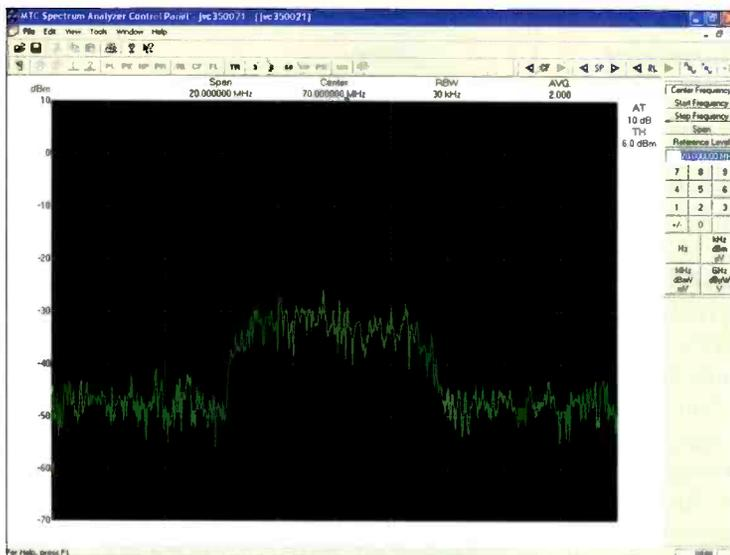
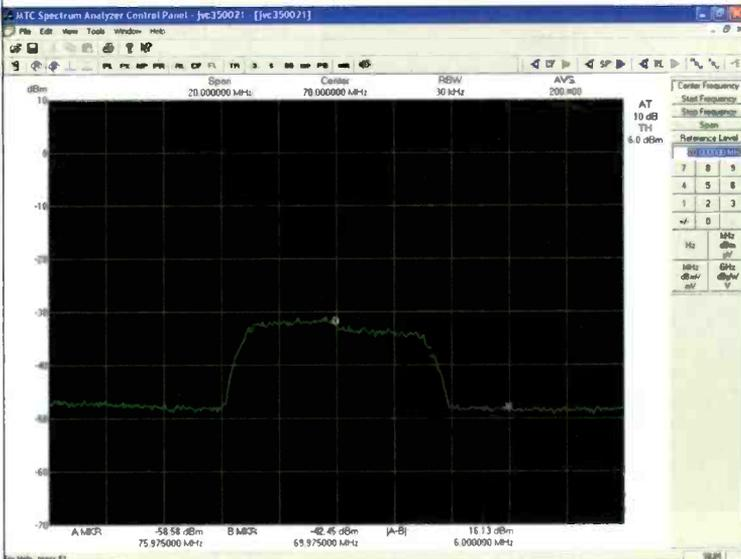

Figure 1. Carrier-to-noise = 16dB
Figure 2. Averaged, with markers
The LA-5124 AutoNorm demultiplexer and Bitstream Splicer are the DTV station side of the StreamStacker system and have a serial connection that interfaces directly with the serial port of the LM100. As the meter is measuring the compressed Dolby Digital stream, the dialogue levels are reported to the StreamStacker, which processes them and inserts them into the outgoing bit stream. Several parameters can be adjusted, which help to weight the incoming dialogue level values if desired and protect the bit stream in case of loss of the values due to connection or measurement failure. (See Figure 1.)
**Figure 1. Shown here is AutoNorm as it might be implemented at a typical DTV station. Note that this shows such options as local audio being upmixed, and splicing between network and local AC-3 (Dolby Digital) streams.**
The key to effectively managing COFDM signals lies in the use of a spectrum analyzer at the central receive site. This allows measurement of the signal's power level and the carrier-to-noise ratio, ensuring optimal antenna alignment and reception power. When measuring carrier-to-noise, use of the averaging function will provide an accurate, quantifiable figure. Set a marker at the peak of the signal, and set another marker in the noise. The delta between the two markers is displayed at the bottom of the spectrum analyzer screen. Figure 1 shows a signal with a 16dB carrier-to-noise ratio. Figure 2 shows that same signal, averaged, with the markers clearly indicated.